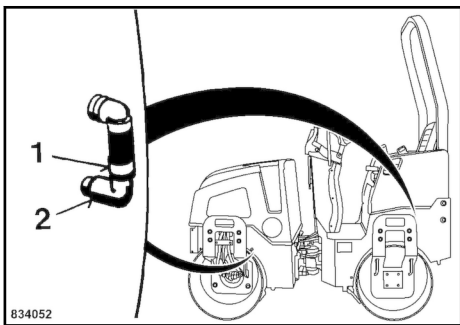

Fig. 91
Loosen hose clamp (1) ↗ Fig. 91 and pull the hoses (2) off the sprinkler tube.